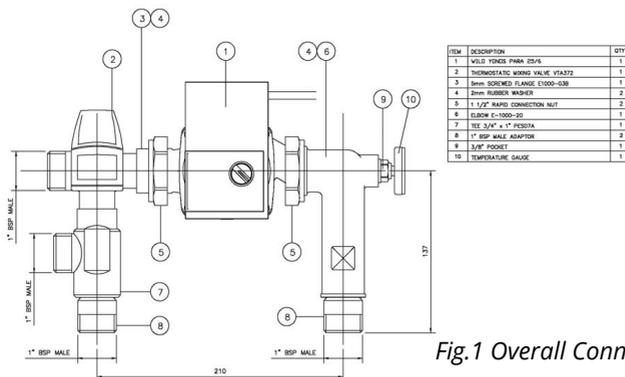

Fig.1 Overall Connections and Dimensions
4.5 The mixer assembly can be attached to the manifold either before or after the manifold is secured to the wall. Using the dimensions shown in Figs. 1, ensure that there is sufficient space for installation and maintenance at the intended position for the control group.